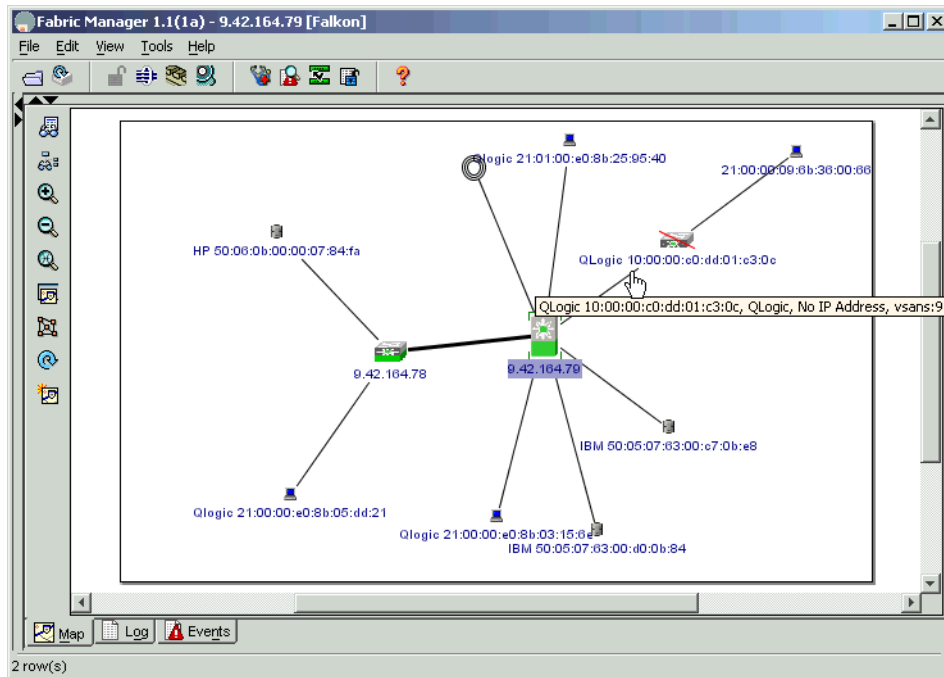

Figure 2-142 Cisco fabric with BladeCenter installed
13. The implementation is now complete. We can see the internal Fibre Channel switch of the BladeCenter in the Cisco Fabric Manager as a QLogic switch, and the WWPNs of any blades that are installed in the BladeCenter behind that switch, as shown in Figure 2-142. The red diagonal line over the QLogic switch means that Fabric Manager does not have IP connectivity to the QLogic switch.